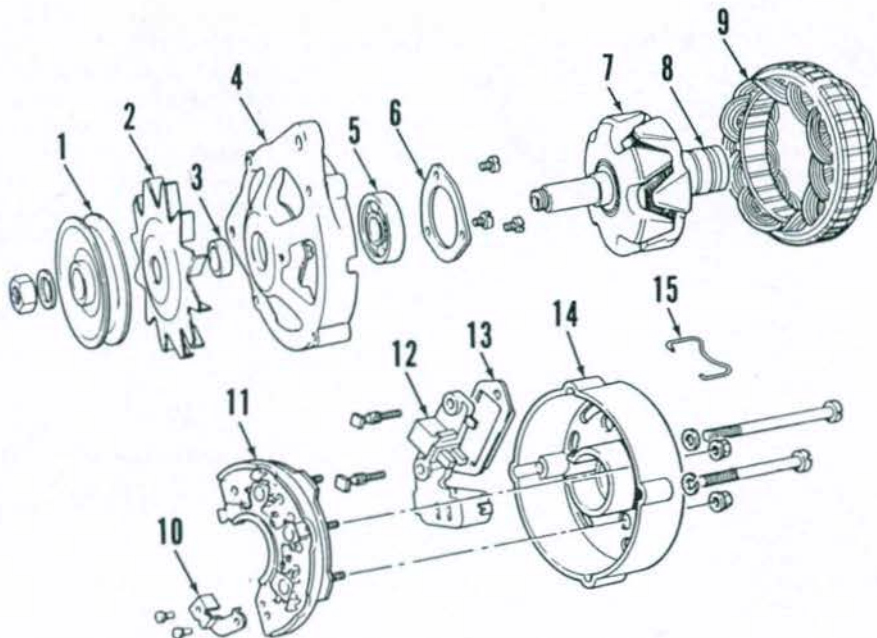

Fig. 108—Exploded view of Perkins alternator used on some MF240 and MF250 tractors.
**106. OVERHAUL.** Prior to disassembly, scribe matching marks across end frame (4--Fig. 108) and rear housing (14) to ensure correct alignment for reassembly. Remove four through-bolts, then separate end frame with rotor from rear housing and stator. Hold rotor in a vise, then remove pulley nut, pulley (1), fan (2) and spacer (3) from rotor shaft. Separate rotor from end frame. Remove front bearing (5) from end frame and rear bearing (8) from rotor if necessary.